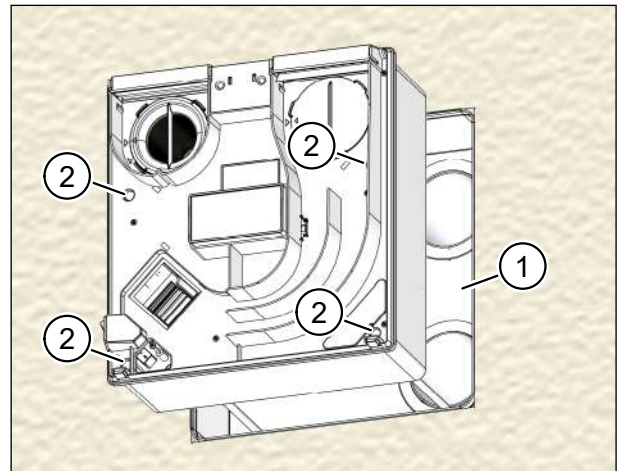

Fig. 38: Fixing the ventilation unit – flush-mount installation
- ▶ Carefully push the ventilation unit as far as it will go into the wall box (item 1 in Fig. 38).
- ▶ Use the four 5 x 100 mm cross-head screws (item 2 in Fig. 38) to fix the ventilation unit. **Lightly** tighten the screws using a diagonal sequence.